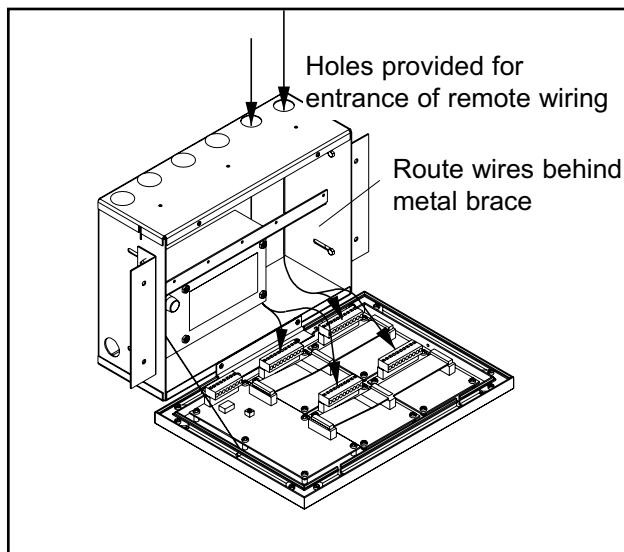

Figure 21: Source Equipment Wire Routing
2. Route each pair of signal wires as shown in Figure 21 to appropriate multi-signal module.